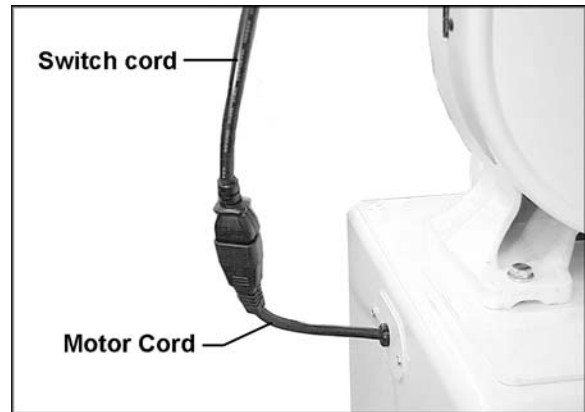

Figure 20
16. Connect the plugs of the motor cord and switch cord (Figure 20).